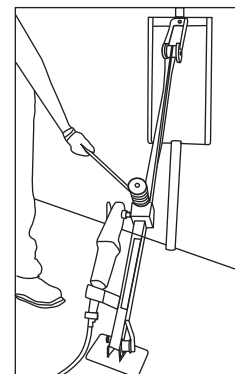

Fig 10
2. To convert to overhead pulls, remove front hitch pin on front extension and swing front extension straight out and re-pin (Fig 10).